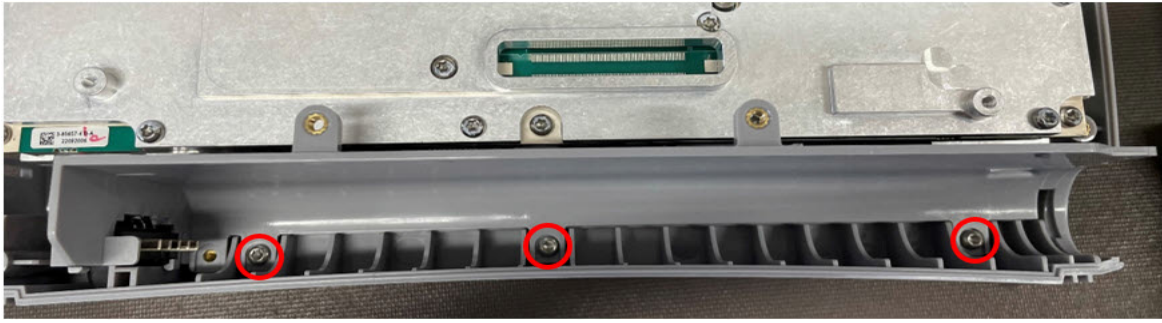

Figure 5-8. Battery Shroud Removal
5. Remove the three Torx screws securing the battery shroud using a T10 Torx screw driver. See Figure 5-8.